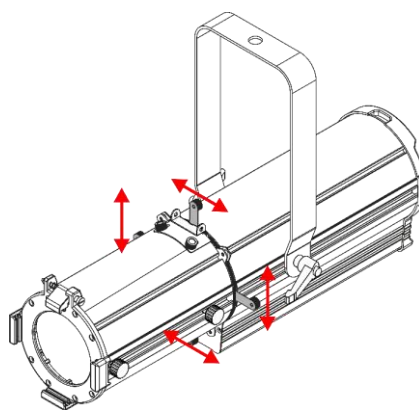

Fig. 15
You can shape the beam with the 4 **framing shutters (03)**. Move the **framing shutters (03)** back and forth to modify the shape of the beam (see Fig. 15).